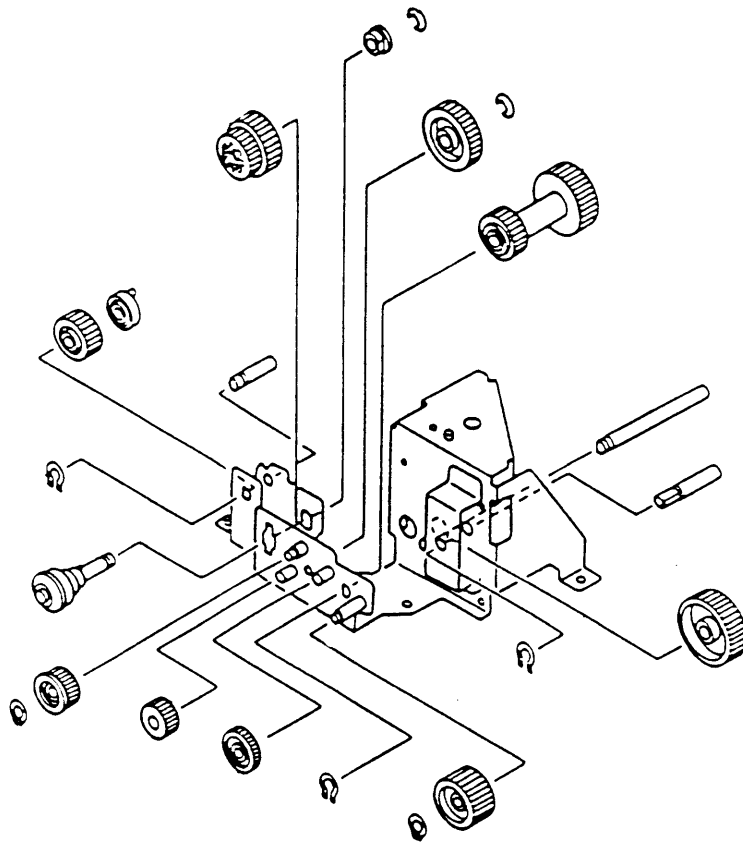

FIGURE 9
□ DRIVE GEAR ASSEMBLY (Figure 9)